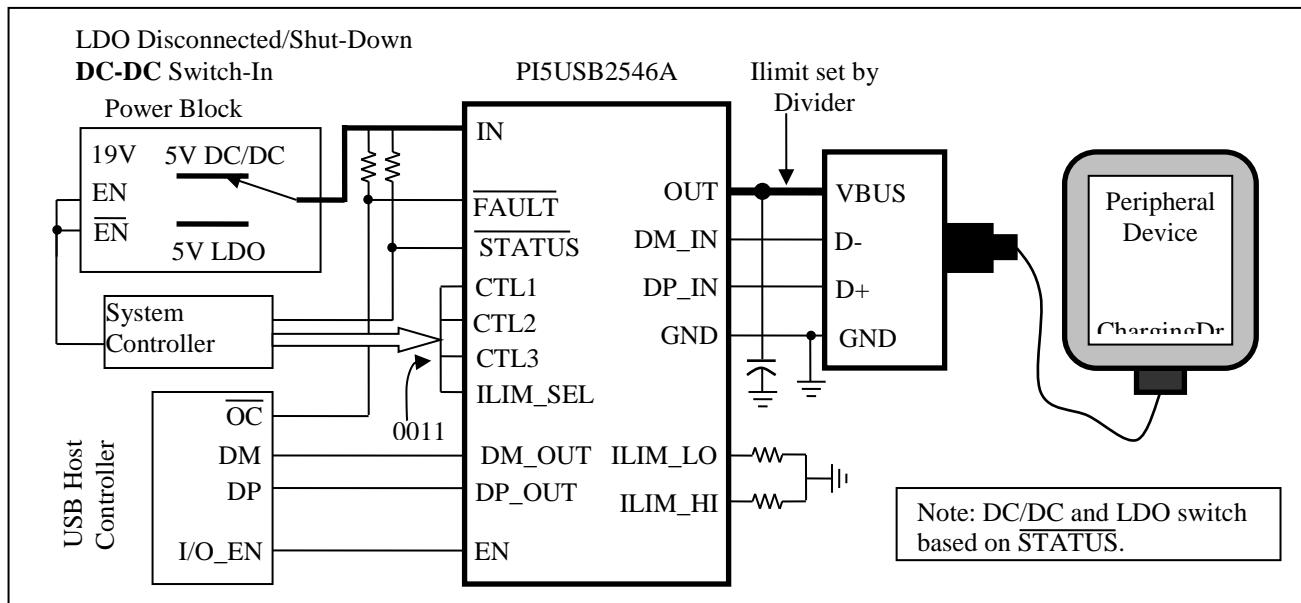

Figure 7, Case 1: System in S4/S5, Device Charging
Following Power Wake flow chart when a device is attached and draws >55mA of charging current the PI5USB2546A will hit its internal current limit. This will trigger the device to assert /STATUS (LO) and turn on the DC-DC converter and turn off the LDO. PI5USB2544A/2546A will discharge OUT for >2s (typ.) to allow the main power supply to turn on. After the discharge the device will turn back on with current limit set by ILIM\_HI (Case 1, Figure 7)